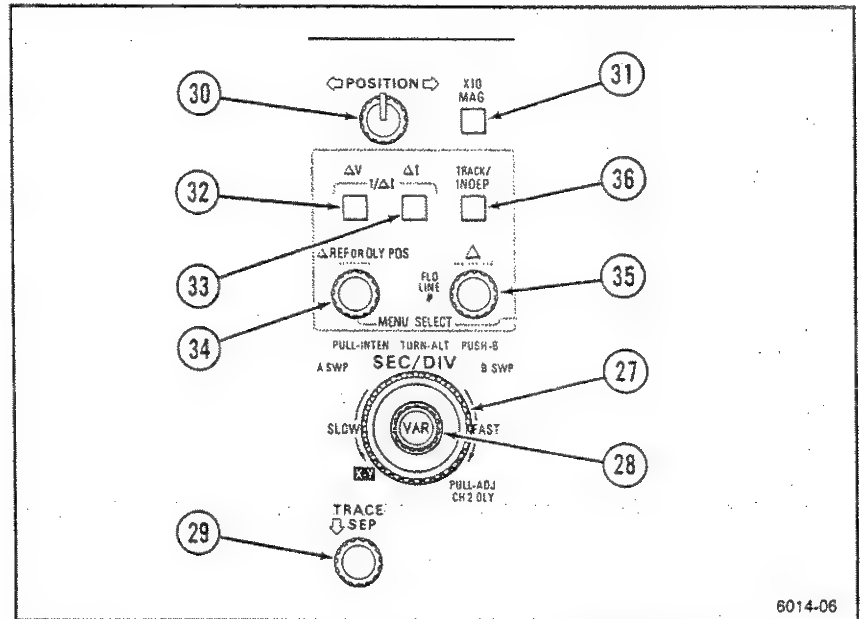

Figure 5-5. Horizontal and delta measurement controls.
Refer to Figure 5-5 for the location of items 27 through 36.